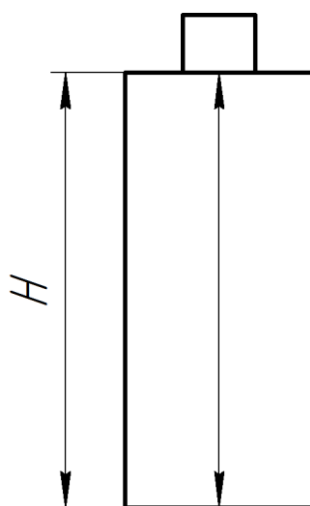

Figure 2.73 – Setting the probe on the sample
3. Set the probe, through couplant, on the sample with known thickness (Figure 2.73).